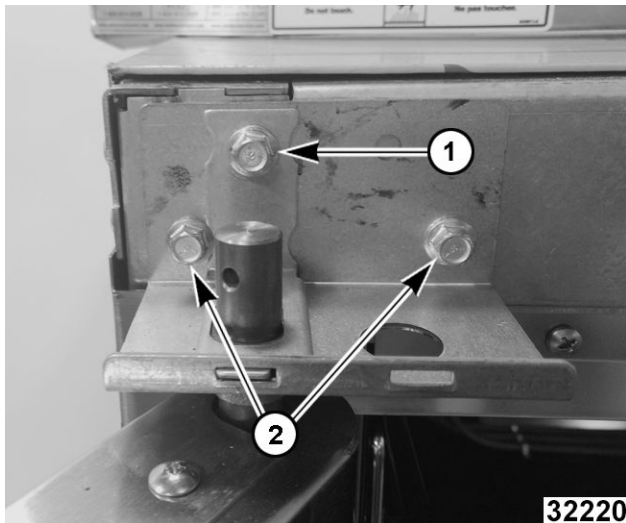

Fig. 49
6. While supporting door, remove hex head bolts holding upper bearing retainer (1, Fig. 49) and upper shaft bracket (2, Fig. 49).